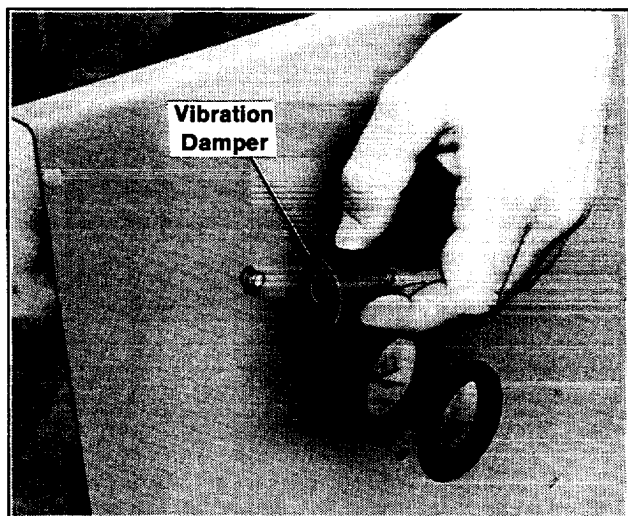

Figure 3. Mounting Vibration Dampeners
8. Attach vibration dampeners to generator enclosure access cover (Figure 3). Place generator enclosure access cover on generator enclosure.